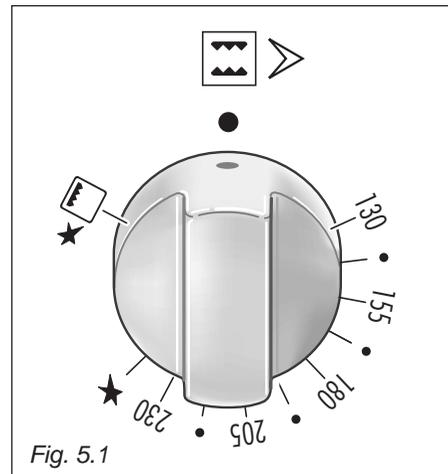
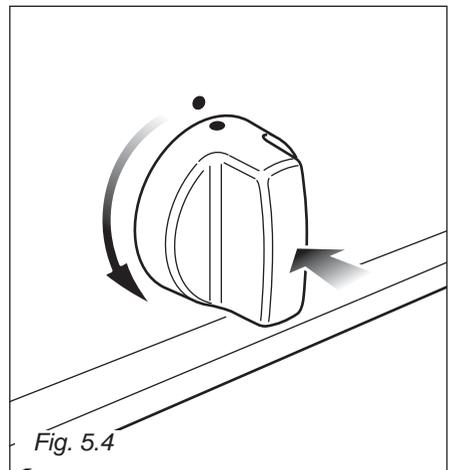
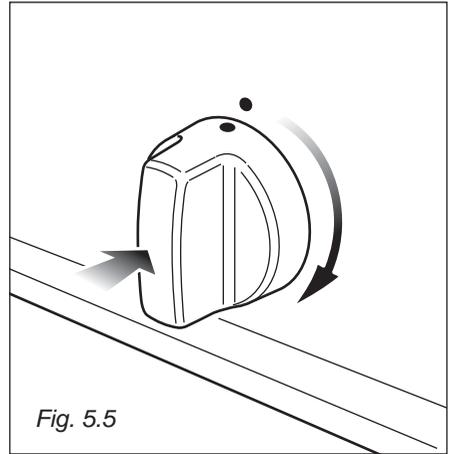

Fig. 5.1
Fig. 5.4
Fig. 5.5
The temperature knob is numbered from 130 to 230 ★ (fig. 5.1) indicating the increasing oven temperature value (see table 5.2).
- 2) Lightly press and turn the temperature knob anti-clockwise (fig. 5.4) to the max position (230 ★ fig. 5.1).
- 2) Lightly press and turn the temperature knob clockwise (fig. 5.5) to the   position (fig. 5.1).